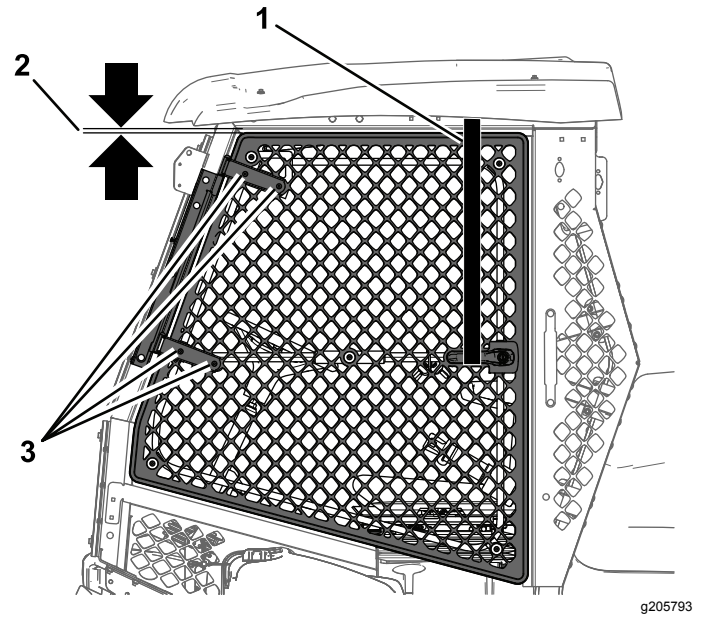

Figure 12
2. Position 1 end of a ratchet strap on the top frame rail and the other end on the door handle (Figure 12).
4. Loosen the 4 bolts and the 4 nuts on the door hinge (Figure 12).